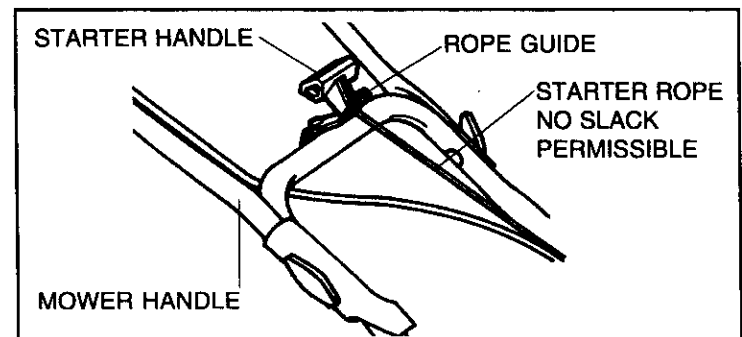

Figure 4
- C. Slide rope stop onto starter rope and feed starter rope through rope guide on mower handle (see Figure 4).
- E. With starter handle resting on rope guide (see Figure 4), check starter rope for slack. If there is any slack, pull more starter rope through starter handle and relocate left hand knot to eliminate slack.
③ CHECK OIL LEVEL: